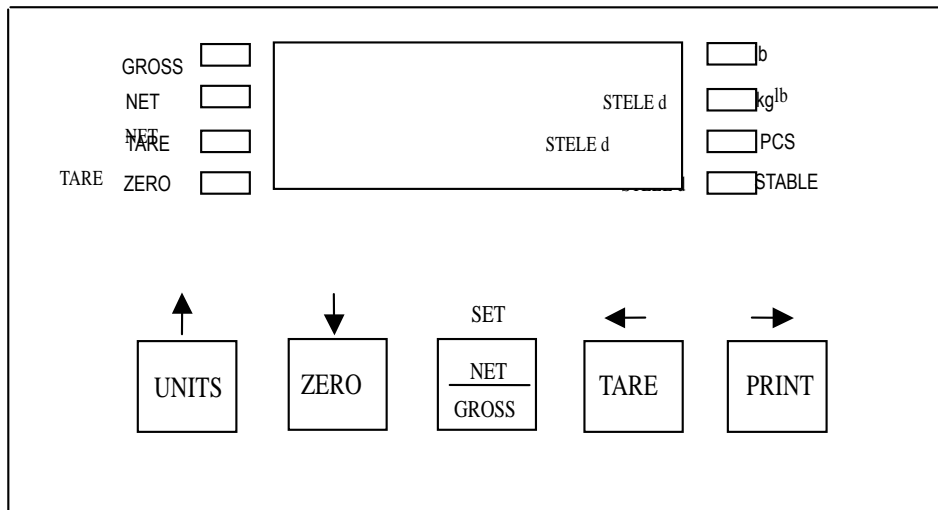
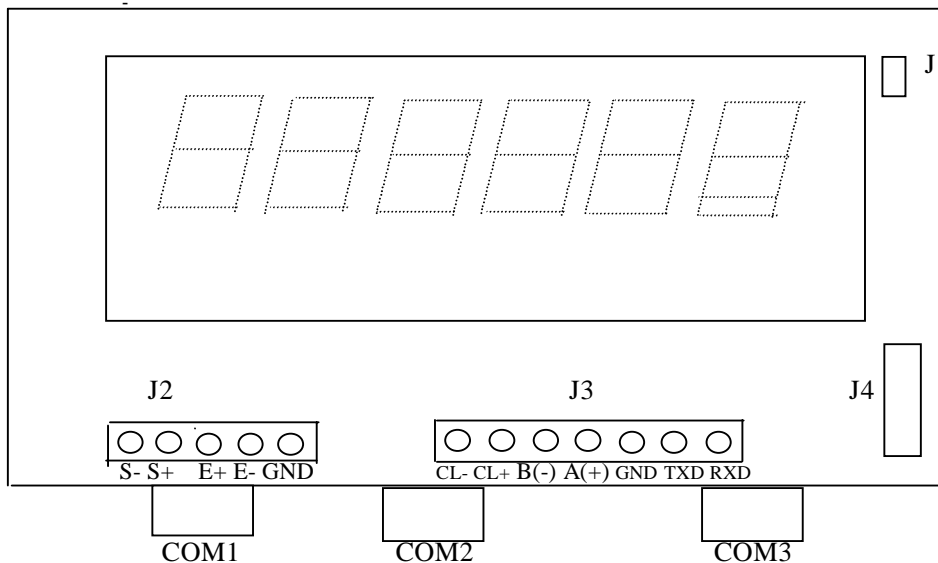

Fig. 1
Fig. 2
2.1 Front panel see Fig. 1, connectors see Fig. 2.